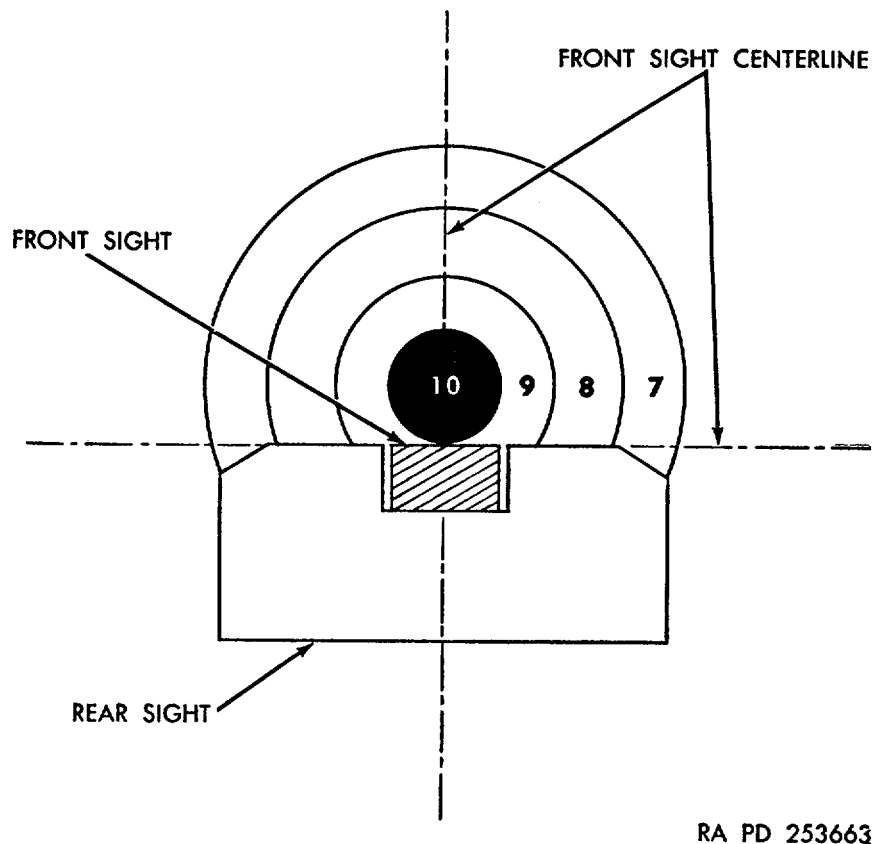

Figure 35. Correct target and sight picture.
- (1) Set safety lever to FIRE position (par. 10b).
- (2) Aline front sight and rear sight on the 6 o'clock position on the target. The correct sight picture is shown in figure 35. If it is necessary to zero the pistol, refer to paragraph 26.
- (3) Squeeze the trigger.
- (4) For continuous firing until the magazine is empty, it is only necessary to re-aim as in (2) above and to squeeze the trigger since extraction and ejection of the cartridge case is automatic.
- (1) Set safety catch to FIRE position (par. 11a).
- (2) Aim front sight and rear sight to the 6 o'clock position on the target. The correct sight picture is given in figure 35. If necessary to zero the pistol, refer to paragraph 26.
- (4) For continuous firing with the magazine until it is empty, it is only necessary to aim as in (2) above, and to squeeze the trigger since extraction and ejection of the cartridge case is automatic.
(c) Aim the front and rear sight to the 6 o'clock position on the target. The correct sight picture is shown in figure 35. If zeroing of the revolver is necessary, refer to paragraph 26.